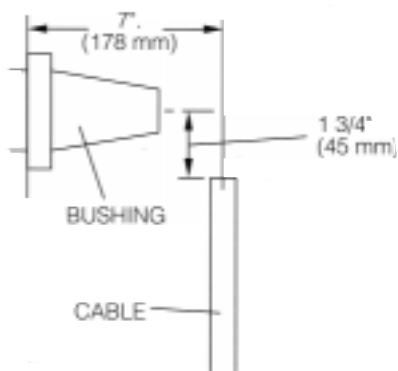

Figure 2.
- Position cable vertically so that it is centered between apparatus bushing and parking pocket, parallel to, and 7" (178 mm) from apparatus frontplate. (Refer to Figure 2.)
- Cut cable 1 3/4" (45 mm) from centerline of bushing. (Refer to Figure 2.)